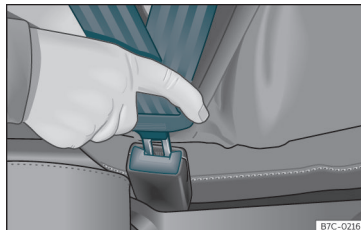

Fig. 9 Insert the latch plate of the seat belt into the buckle.
- Engage the seat backrest of the rear seat in an upright position »» **Fig. 9.**
- Engage the latch plate in the buckle of the corresponding seat»» **Fig. 9.**